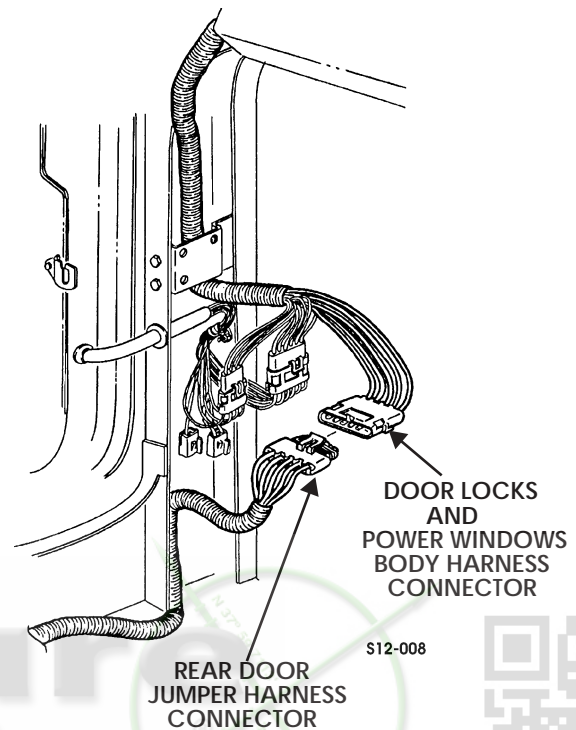

Figure 13-90: Power Windows and Door Locks Body Harness and Rear Door Jumper Harness
3. Disconnect jumper harness connector from power windows and door locks body harness connector (Figure 13-90).
2. Connect jumper harness connector to power windows and door locks body harness connector (Figure 13-90).